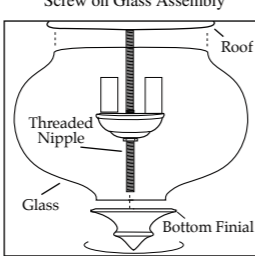

Figure 9
- For bottom spindle assembly, if necessary, carefully unscrew bottom finial, remove glass and insert bulb(s). Carefully install glass over spindle by positioning glass up under roof. Secure glass by screwing finial onto threaded nipple (see figure 9). *(Continued ...)*